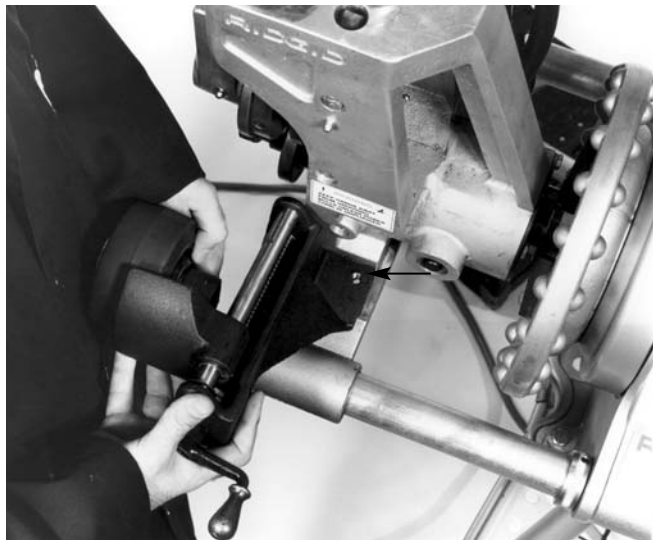

Figure 22 – Line Up Bolt Holes in the Mounting Bracket with Bolt Holes in the Base
1. Align mounting bracket onto base of roll groover so that the bolt holes in the mounting bracket line up with bolt holes in the base. (Figure 22)